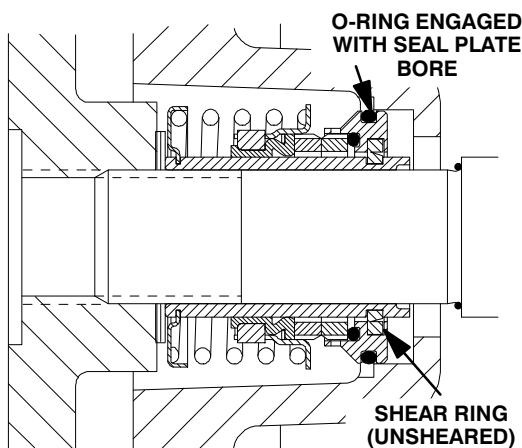

Figure 10. Seal Partially Installed
Clean and inspect the impeller as described in **Impeller Installation and Adjustment**. Install the full set of impeller shims (2) provided with the seal, and screw the impeller onto the shaft until it is seated against the seal (see Figure 10).